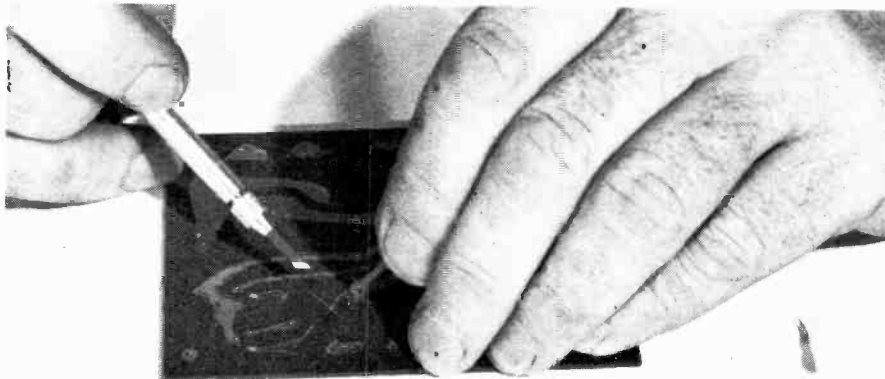

Fig. 10. Remove remaining film from the board.
14) Remove the remaining Letrafilm. This can be peeled and rubbed off (Fig. 10).